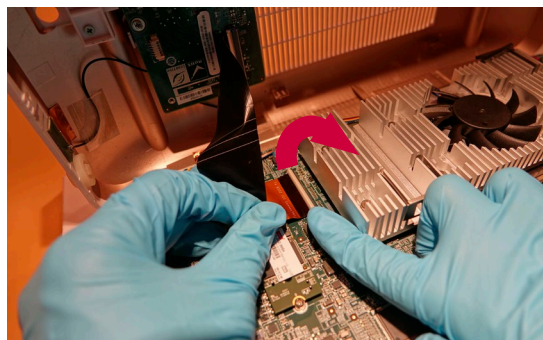

Figure 11 Disconnect the FPC cable
j) Release the FPC cable (Figure 11)